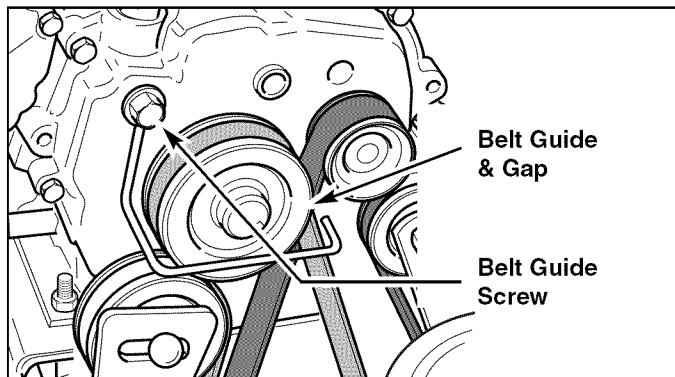

Figure 28. Auger Belt Guide Adjustment (Earlier Models)
1. With the auger control still fully depressed, adjust the auger belt guide(s) so that there is a 1/64" gap (1/32" Maximum) between the guide and the belt (Figures 28, 28a), making certain the guide is NOT putting pressure on the belt.
2. Making certain the auger belt guide does NOT move while doing so, tighten the auger belt guide screw (Figures 28, 28a) to secure the guide.
3. Check the adjustment on the auger belt guide(s) (Figures 28, 28a) to make certain that the gap between the belt and the belt guide is correct.
4. Loosen auger belt guide and slide belt off engine pulley and away from idler pulley. (See Figure 28).